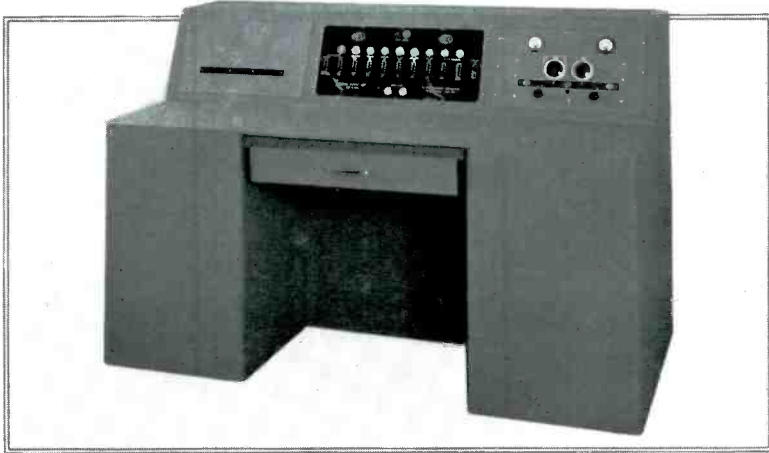

FIG. 13. FM CONTROL CONSOLE LOCALIZES ALL THE TRANSMITTER CONTROLS AND MONITORING EQUIPMENT FOR CHECKING AUDIO, MODULATION, AND FREQUENCY
- F—Centralized operator's desk, from which position full control of the entire transmitter is obtained. The audio, frequency, and modulation monitors are incorporated in this desk. This is shown in Fig. 13.